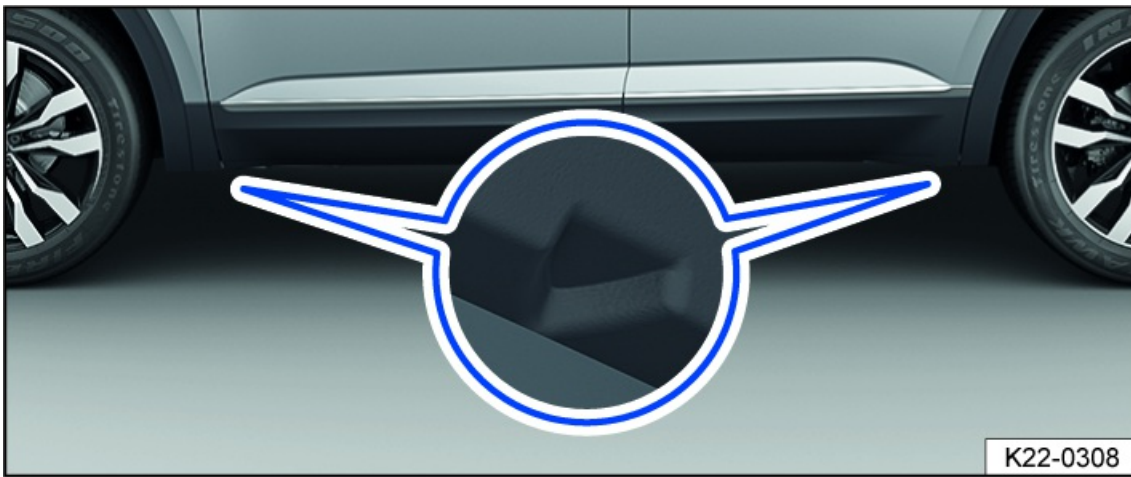

Fig. 188 On the side sill: markings for the jack lift points.
The vehicle jack must only be positioned at the reinforced areas on the underbody that are located behind the markings on the vehicle body *fig. 188*. Always use the lift point that is nearest to the wheel you are changing ⇒ ⚠.
2. Find the jacking point *fig. 188* under the vehicle that is closest to the wheel you will be changing.